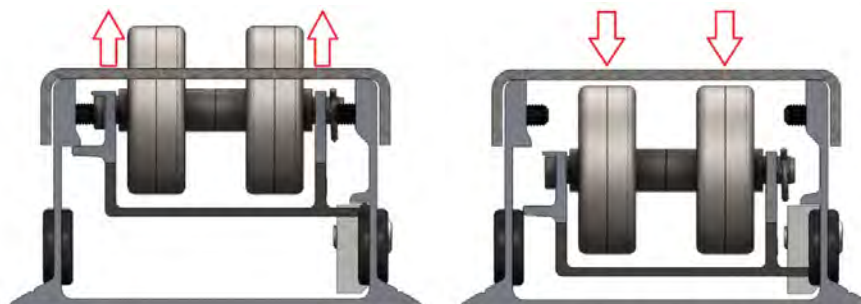

Figure 1-2 - Roller / wheels raised and lowered
- Airbags raise the rollers or skate wheels above the surface of the trailer floor for easy loading and unloading of cargo without a forklift. (Fig. 1.2)